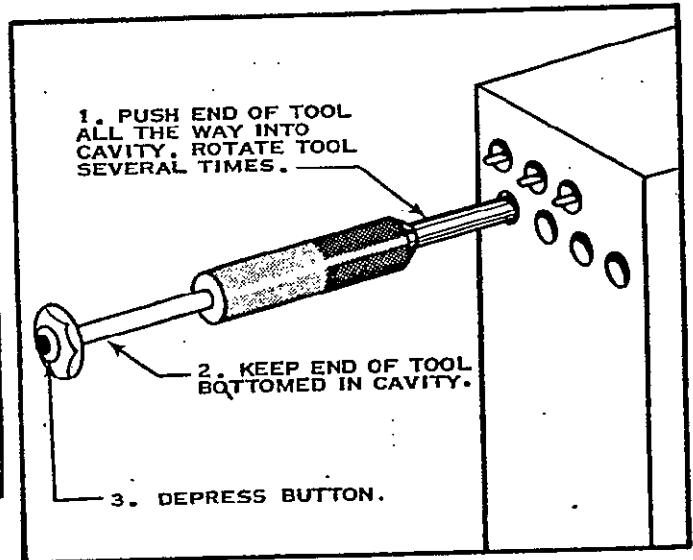

Fig. 4
- (b) Push Sleeve into Cavity as far as it will go. Note that Push Rod Button will "back out" of Handle when end of Contact is engaged. See Figure 4.